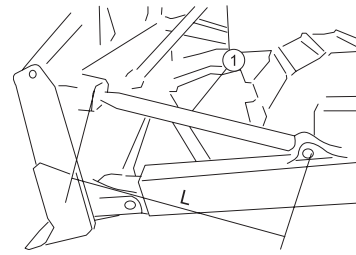

Figure 2-80
- Simply operate blade control lever to let the blade tilt 425mm. If necessary, changing the left support arm's length L (Figure 2-80) can further tilt it to 500mm. The support rod's length L is generally 1287mm, and the blade's tilt should be within 500mm. Do not attempt to tilt the blade to more than 500mm, to prevent unwanted effect.